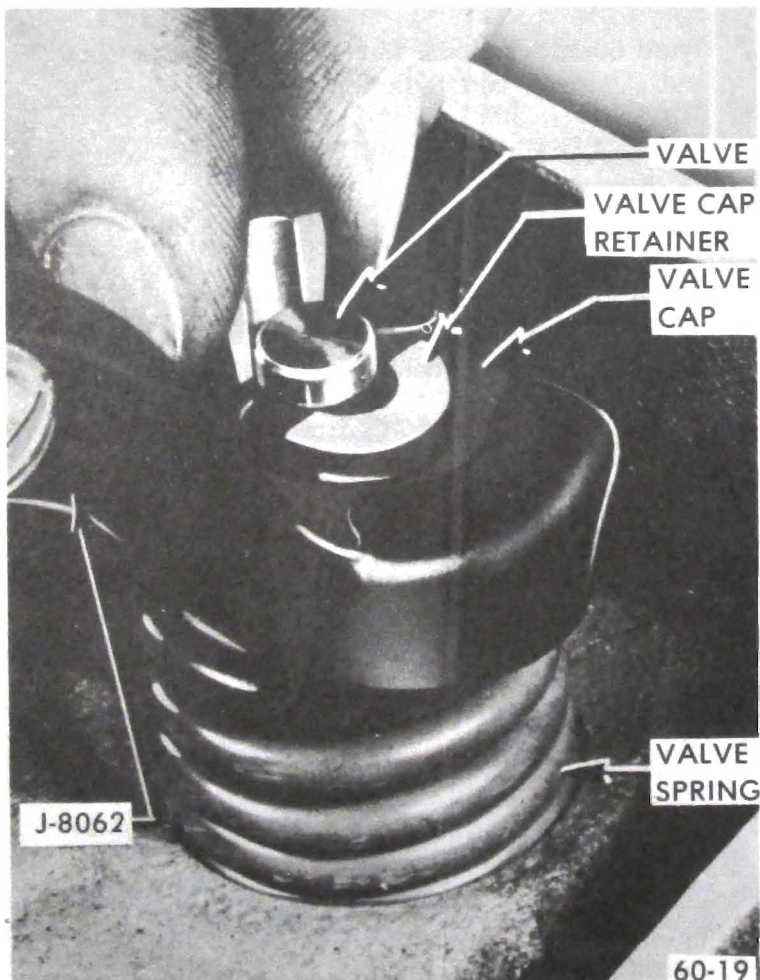

Figure 60-19 - Removing Valve Cap Retainers.
2. Using suitable spring compressor, such as J-8062, compress valve spring and remove valve spring cap key. Release tool and remove spring and cap. See Figure 60-19.